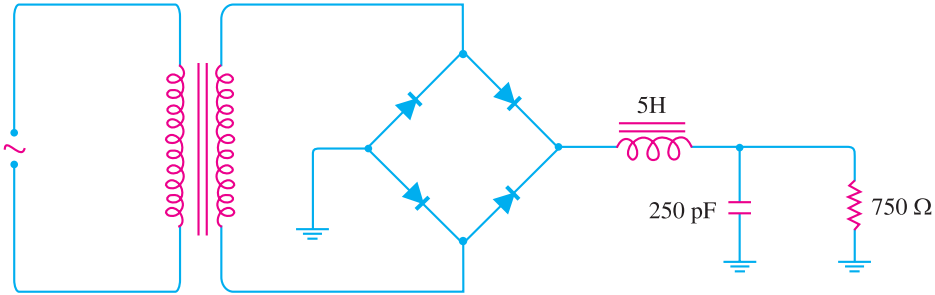

Fig. 6.45
**Example 6.24.** The choke of Fig. 6.45 has a d.c. resistance of  $25 \Omega$ . What is the d.c. voltage if the full-wave signal into the choke has a peak value of  $25.7 \text{ V}$ ?